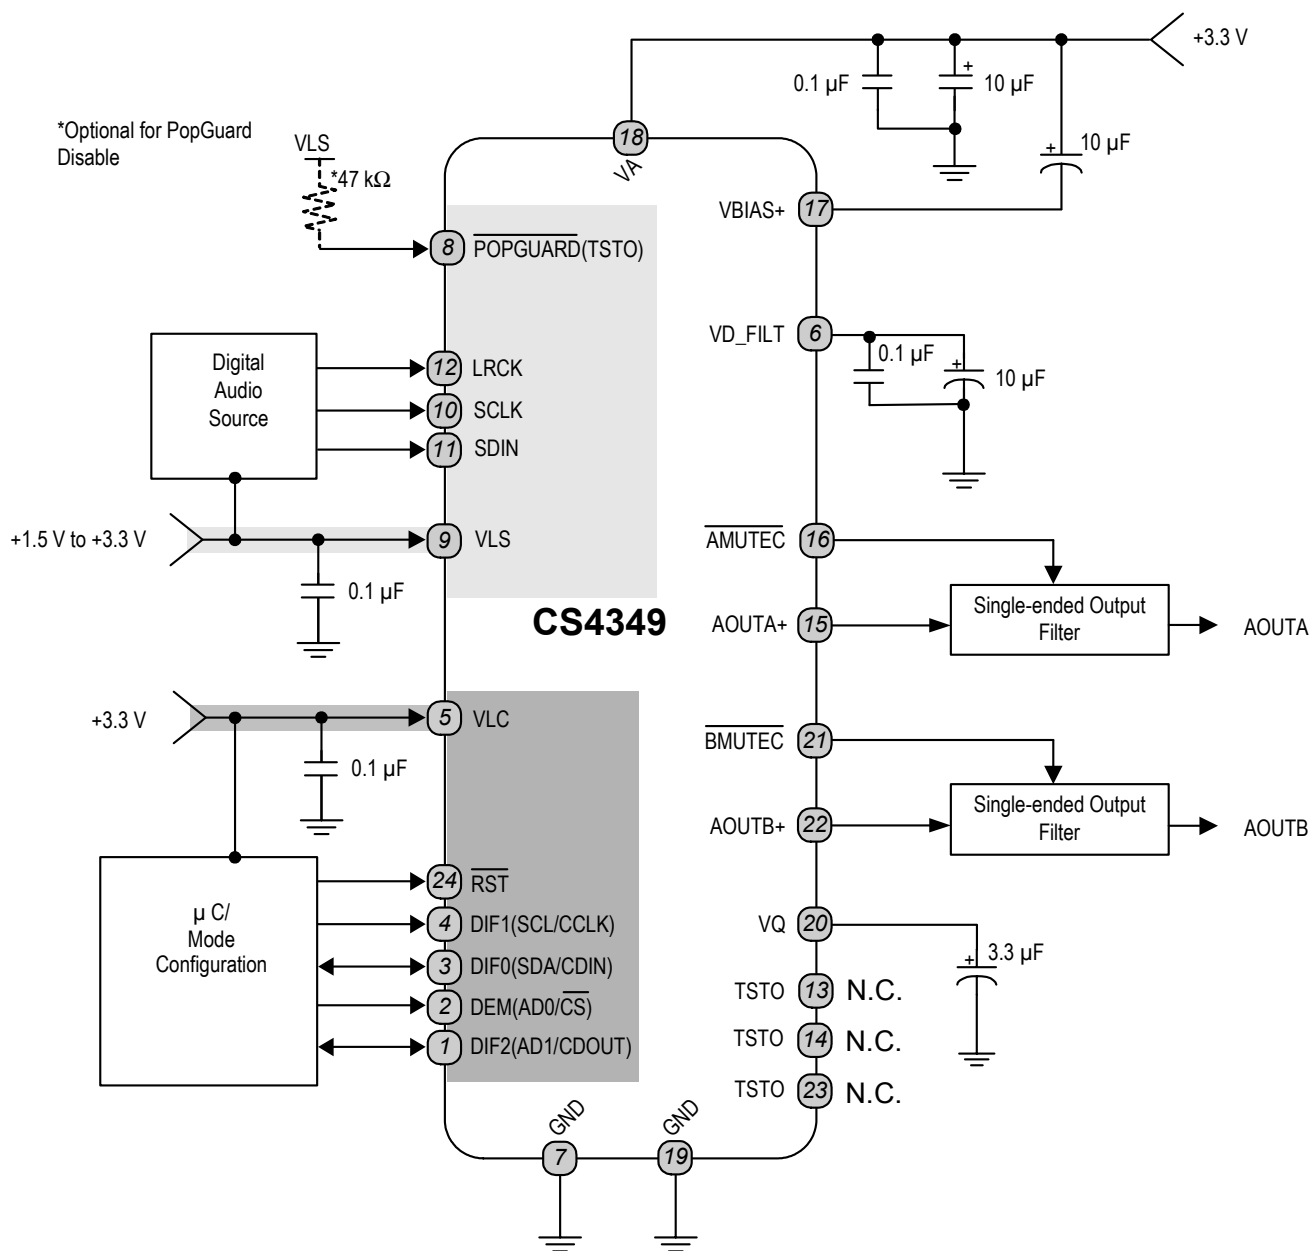

Figure 10. Typical Connection Diagram
17. Valid with the recommended capacitor values on VFILT, VQ, and VBIAS+ as shown in the typical connection diagram in Figure 10.
As with any high-resolution converter, the CS4349 requires careful attention to power supply and grounding arrangements if its potential performance is to be realized. Figure 10 shows the recommended power arrangements, with VA, VLC, and VLS connected to clean supplies. The use of split analog and digital ground planes is not recommended. However, if planes are split between digital ground and analog ground the GND pins of the CS4349 should be connected to the analog ground plane.